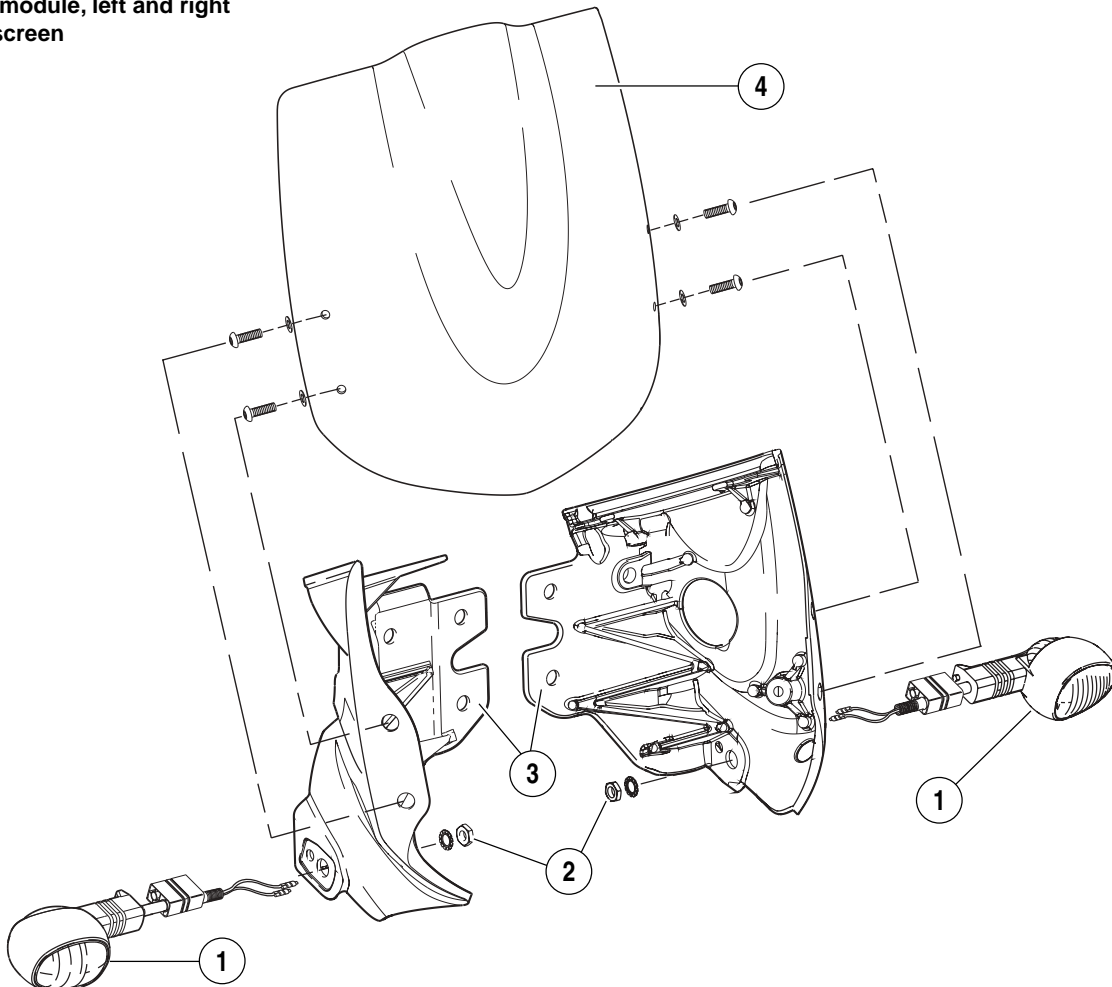

Figure 7-49. Front Turn Signals
3. See Figure 7-49. Remove jam nut and lockwasher (2) from inside of front module (3).
4. Pull bullet connectors and wiring through hole in front module (3) and remove turn signal (1).
1. See Figure 7-49. Insert bullet connectors and wiring through hole in front module.